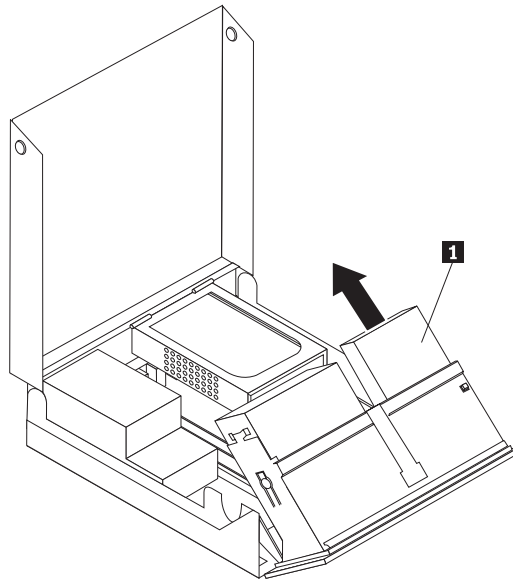

Figure 28. Removing the diskette drive
4. Slide the diskette drive up and out of the drive bay assembly. See Figure 28.